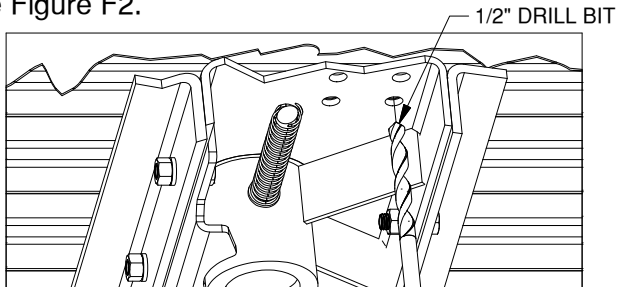

Figure F2: Cutaway view of bed and center section.
1. **Drill the holes.** From under the bed use a drill and a 1/2" drill bit to drill through the bed using the four holes that match up with a low rib in the truck as a guide. Remove any burrs created during the drilling process, see Figure F2.